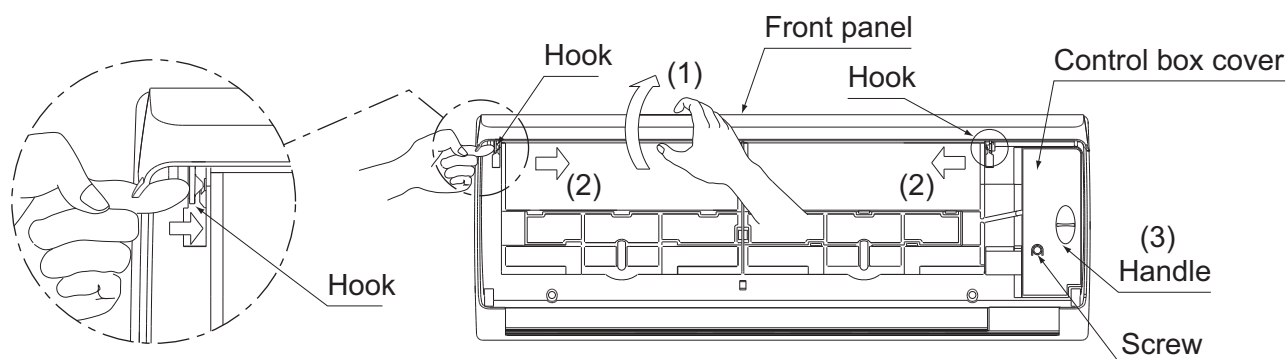

Fig. 7
## (2) Remove the front panel and the control box cover. (Refer to Fig. 7)